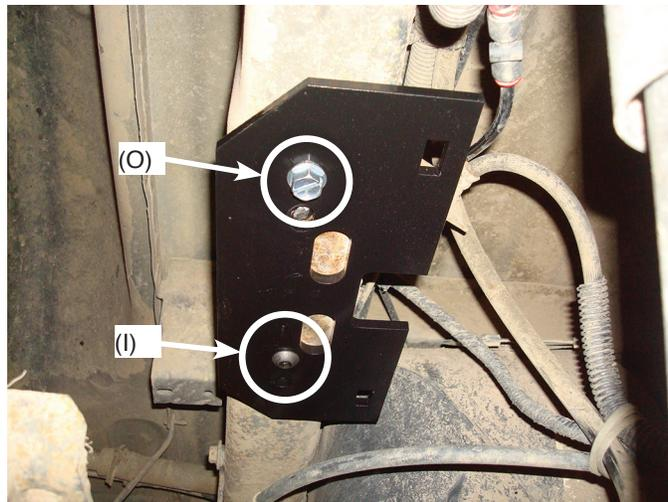

fig. 6
3. Insert and tighten a self-tapping bolt (O) into the hole drilled. Torque the bolt to 15 lb.-ft (fig. 6).
*Figure 6 shows the upper bracket installed to the frame using the supplied M10 bolt (I) that was removed and a self-tapping bolt. **Use these only if the existing jounce bumper bolts break!***